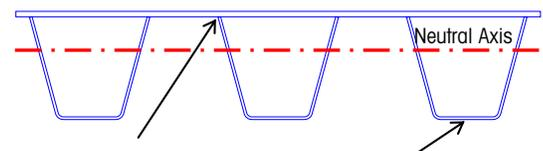

Figure 9: Scale Cross Section
1. The closed-rib design resists metal fatigue because there are no welds in the areas of the bridge that experience the greatest stress. The welds are located as close as possible to the neutral axis. What is the neutral axis? When a vehicle is driven onto a scale module, the module bends. Its top surface is pushed together (placed in compression), and its bottom surface is pulled apart (placed in tension). As you move downward from the top surface, the amount of compression decreases. As you move upward from the bottom surface, the amount of tension decreases. At some point near the center of the structure, the stress point is zero (it is in neither compression nor tension). This point is called the neutral axis. The actual position of the neutral axis will vary, depending on the geometry of the module. In the closed-rib design, the neutral axis is closer to the top surface of the deck (Figures 9 and 10). The greatest stress is at the surface that is farthest from the neutral axis, in this case the bottom of the rib. The welds are located in the lower stress region where the ribs meet the underside of the deck plate, near the neutral axis and far from the bottom of the rib.